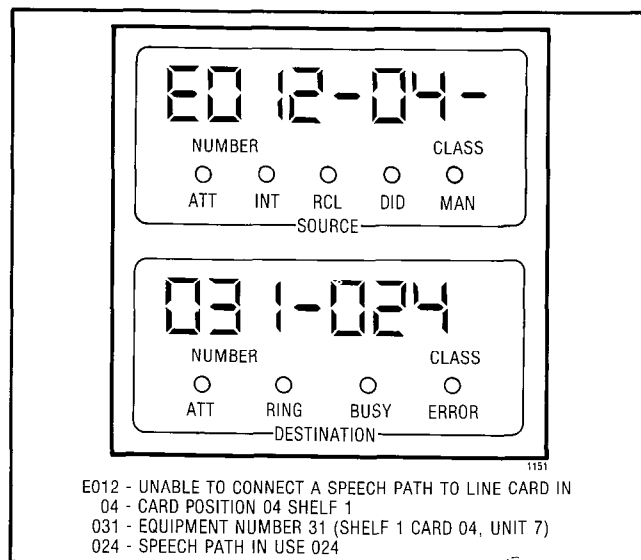

Fig. 4-8 Typical Error Display
4.22 Error Codes: The error codes, Table 4-4, displayed on the console indicate the card causing the malfunction and the type of malfunction. Fig. 4-8 shows a typical error display and its interpretation. Fig. 4-9 shows the equipment numbers and card positions. The alarm may be cancelled and removed from the console by dialing * 8 # (assuming the use of * as the attendant function), then pressing the RELEASE button. This will remove the alarm from the console but will not de-busy the affected circuit. To display the remaining errors, the preceding errors must be cancelled by the service person.